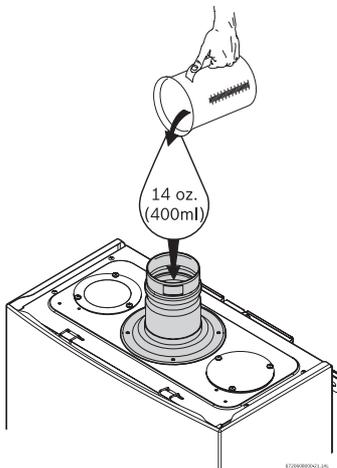

Fig. 18 Filling the condensate trap at start up
- ▶ Fill the condensate trap by pouring approx.14 oz. (400ml) of water into the exhaust accessory on the top of the appliance, see Fig. 18.